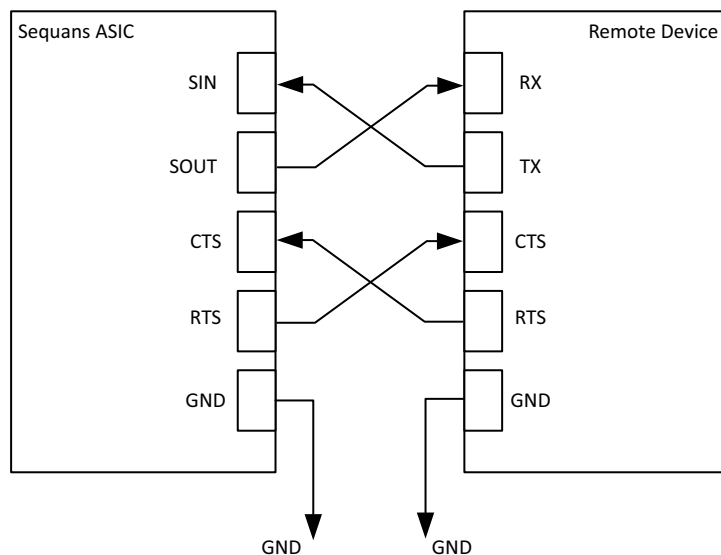

Figure 4-1: UART Flow Control
Refer also to Figure 4-1 that represents the typical implementation for UART hardware flow control.
- **UART2_CTS:** UART2 flow control, Clear-To-Send, active low, of the SP150Q. To be connected to the RTS of the remote UART device. Provision a 1 kOhm pull-down on CTS pin when flowcontrol is not used. If it is connected to an external component (like a RS232 driver), the user should make sure that this component will present a low level to the SP150Q. See Figure 4-1.
- **UART2_RTS:** UART2 flow control, Ready-To-Send, active low, of the SP150Q. To be connected to the CTS of the remote UART device. See Figure 4-1.
- **UART3_CTS:** UART3 flow control, Clear-To-Send, active low, of the SP150Q. To be connected to the RTS of the remote UART device. Provision a 1 kOhm pull-down on CTS pin when flowcontrol is not used. If it is connected to an external component (like a RS232 driver), the user should make sure that this component will present a low level to the SP150Q. Figure 4-1.
- **UART3_RTS:** UART3 flow control, Ready-To-Send, active low, of the SP150Q. To be connected to the CTS of the remote UART device. See Figure 4-1.
Figure 4-1 represents the typical implementation for the hardware flowcontrol.